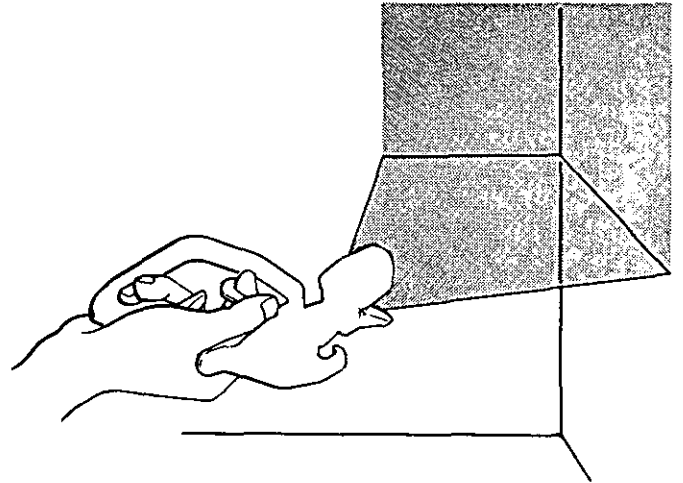

Fig 9
*For interior corners, such as on a bookcase or inside a cabinet, aim the gun toward the center of the corner to spray.* By dividing the spray pattern this way, the edges on both sides are sprayed evenly. See Fig 9.